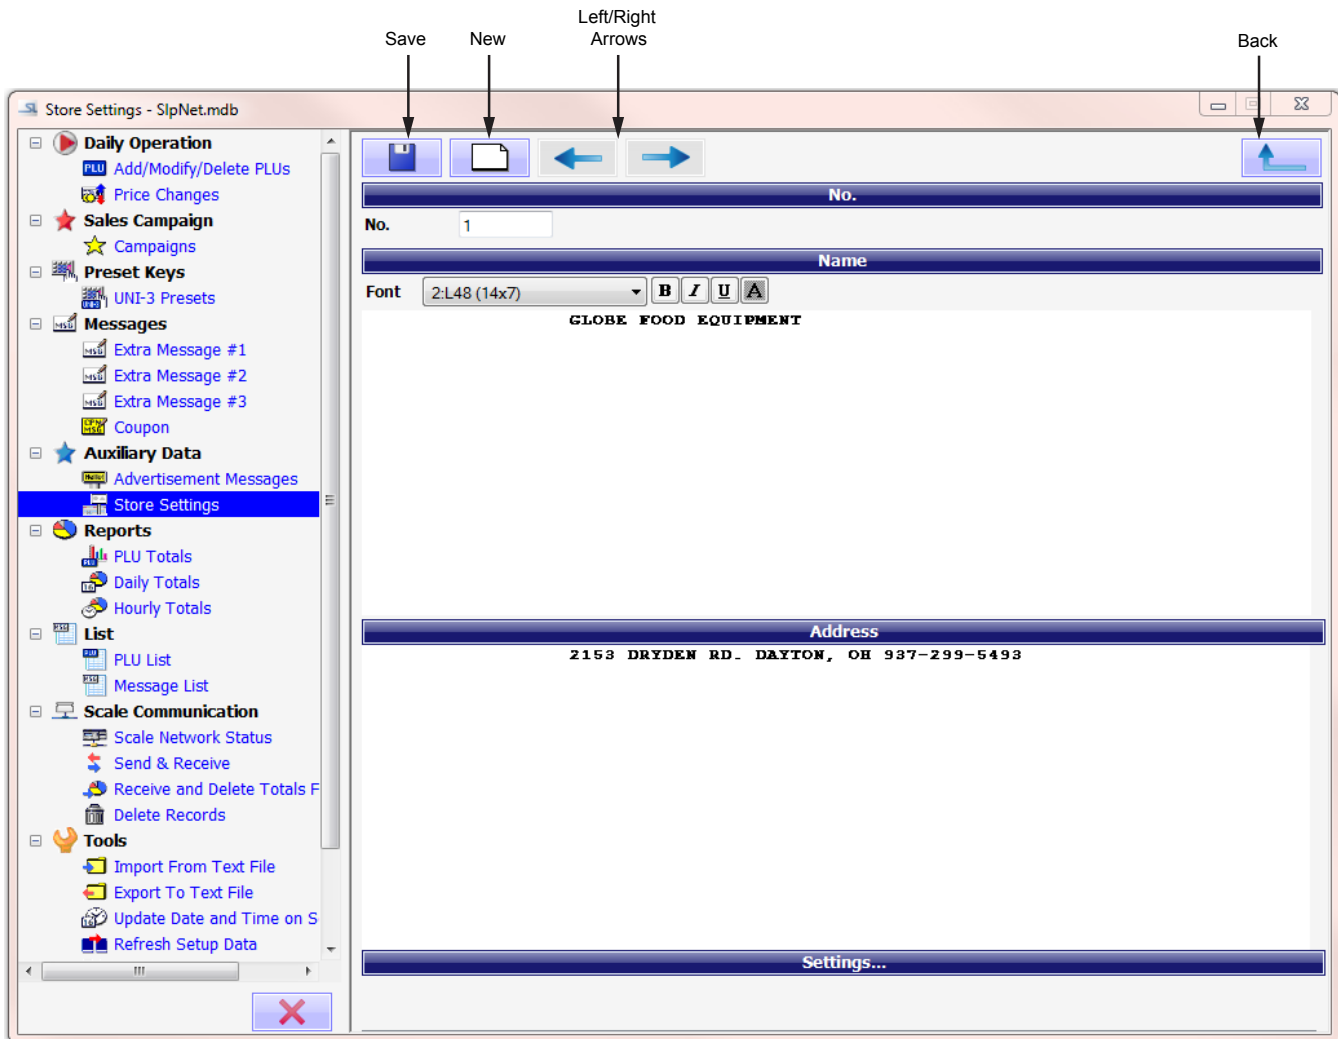

Figure 8-1
3. Key in the store name and address in the Name and Address fields. See Figure 8-1.